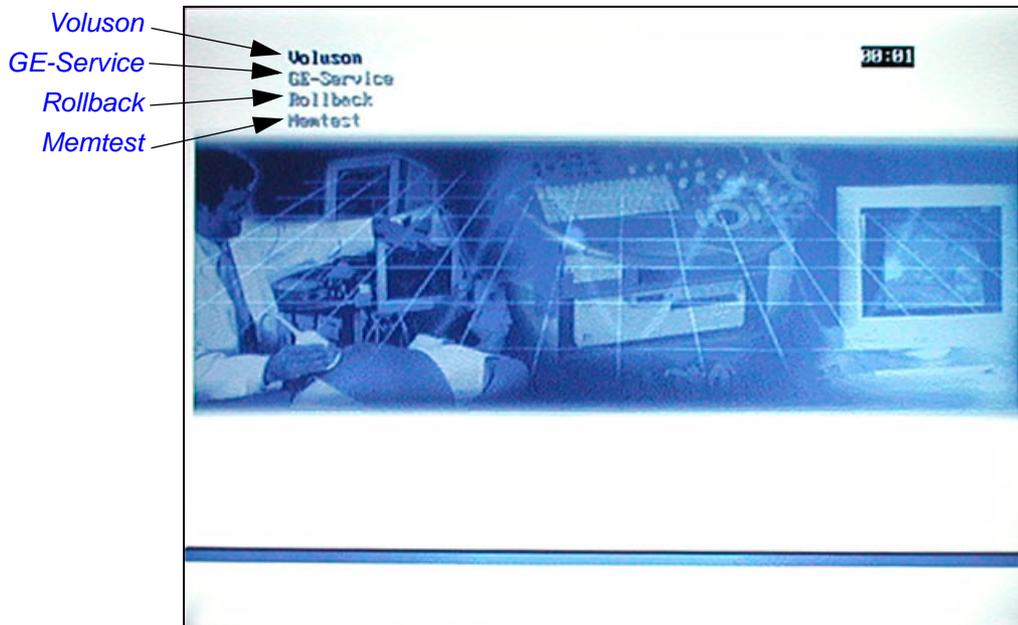

Figure 5-32 Boot screen
- 2.) As soon as the "Boot Screen" appears (see: Figure 5-32 on page 5-57), press the **PG DN** [↓ Arrow down] key on the keyboard until the **Rollback** item is highlighted, then press **ENTER**.
- 2.) As soon as the “Boot Screen” appears (see: Figure 5-32 on page 5-57), press the **PG DN** [↓ Arrow down] key on the keyboard until the **Memtest** item is highlighted, then press **ENTER**.